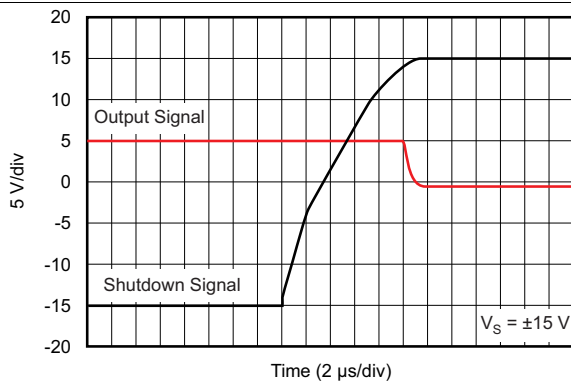

Figure 39. Turnoff Transient
(1) When disabled, the output assumes a high-impedance state.
(2) See Typical Characteristics curves (Figure 39 through Figure 41).
The shutdown (enable) function of the OPA211 is referenced to the positive supply voltage of the operational amplifier. A valid high disables the operational amplifier. A valid high is defined as $(V+) - 0.35$ V of the positive supply applied to the shutdown pin. A valid low is defined as $(V+) - 3$ V below the positive supply pin. For example, with V_{CC} at ± 15 V, the device is enabled at or below 12 V. The device is disabled at or above 14.65 V. If dual or split power supplies are used, make sure the valid high or valid low input signals are properly referred to the positive supply voltage. This pin must be connected to a valid high or low voltage or driven, and not left open-circuit. The enable and disable times are provided in the *Typical Characteristics* section (see Figure 39 through Figure 41). When disabled, the output assumes a high-impedance state.